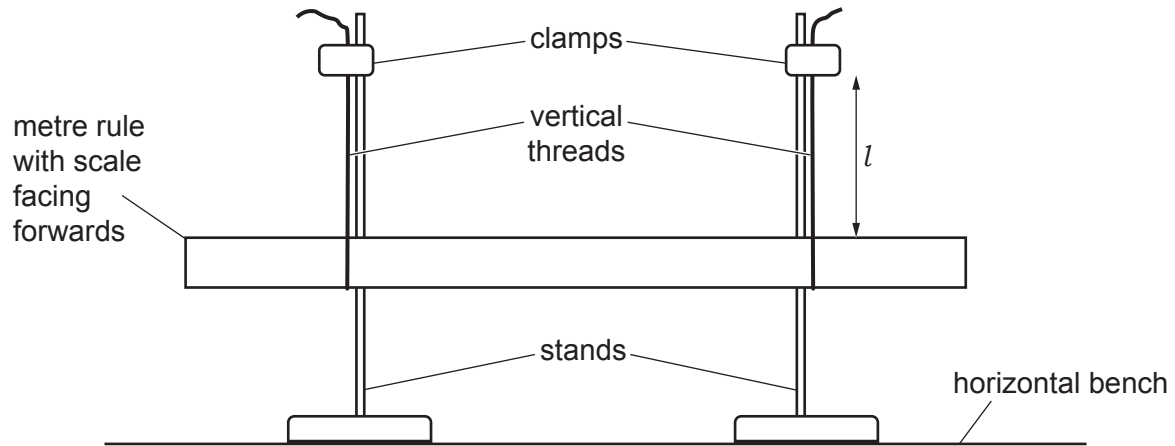
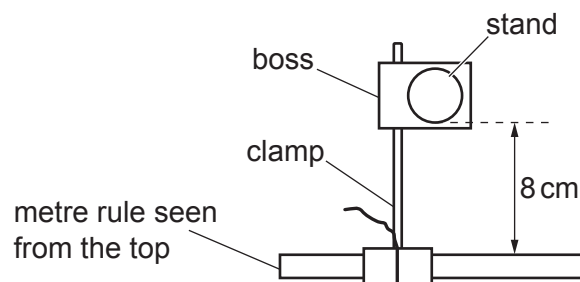

Fig. 1.2
Fig. 1.3
3. The apparatus must be set up for the candidates as shown in Fig. 1.2, with the metre rule suspended from the two threads, placed symmetrically about the 50 cm mark. The distance between the threads is not important. The threads must be vertical and the length  $l$  of the threads should be between 35 cm and 40 cm. Both threads must have the same length. The metre rule must be horizontal and there must be a horizontal distance between the metre rule and the stands of 8 cm as shown in Fig. 1.3.
- Check that the apparatus is arranged as shown in Fig. 1.2.